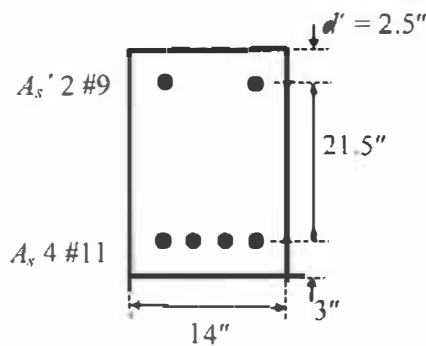

Fig 1
- Determine the design moment capacity of the beam shown in Fig 1, for which $f_y = 60$ ksi and $f_c' = 3$ ksi.